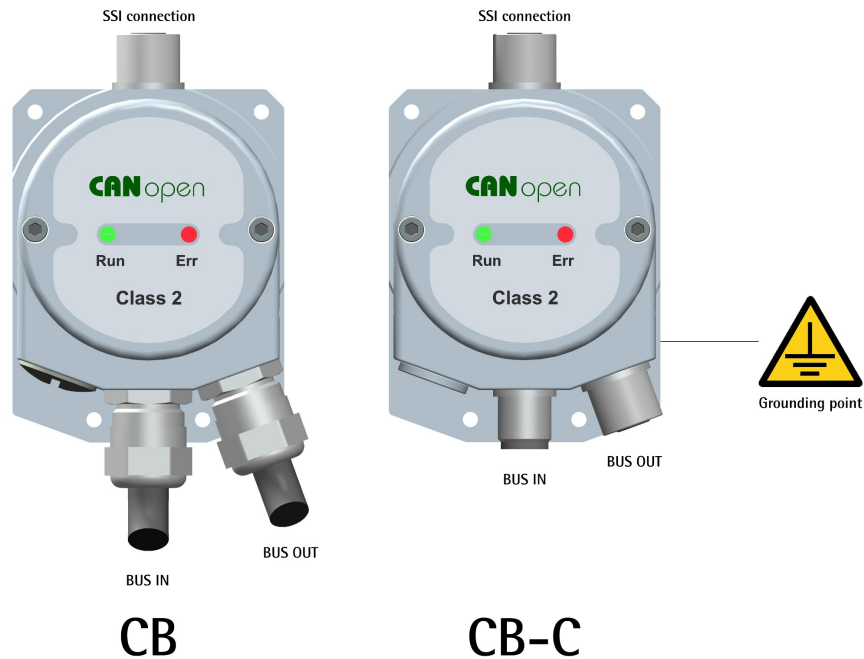
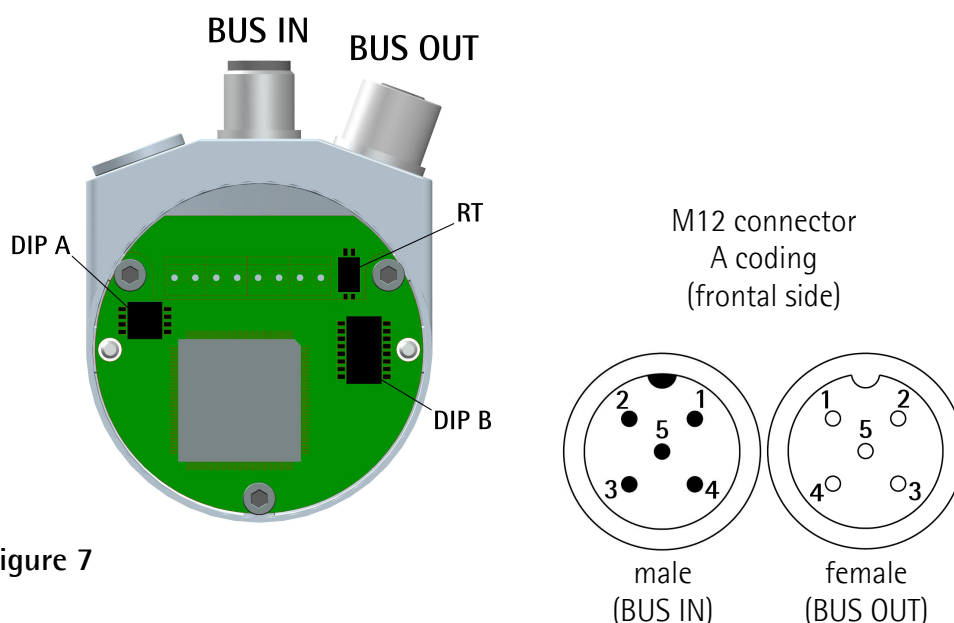

Figure 4
Figure 7
## 4.2 SSI connection (Figure 4)
**4.3 CANopen converter with PGs: CB version (Figure 4 and Figure 6)**
#### 4.4 CANopen converter with M12 connectors: CB-C version (Figure 4 and Figure 7)
#### 4.5 Ground connection (Figure 4)
Minimize noise by connecting the shield and/or the connector housing and/or the enclosure to ground. Make sure that ground is not affected by noise. The connection point to ground can be situated both on the device side and on user's side. The best solution to minimize the interference must be carried out by the user. You are advised to provide the ground connection as close as possible to the unit. We suggest using the ground point provided in the connection cap (see the Figure 4, use one TCEI M3 x 6 cylindrical head screw with two tooth lock washers).
#### 4.8 Baud rate: DIP A (Figure 6 and Figure 7)
#### 4.9 Node number: DIP B (Figure 6 and Figure 7)
#### 4.10 RT Bus termination (Figure 6 and Figure 7)